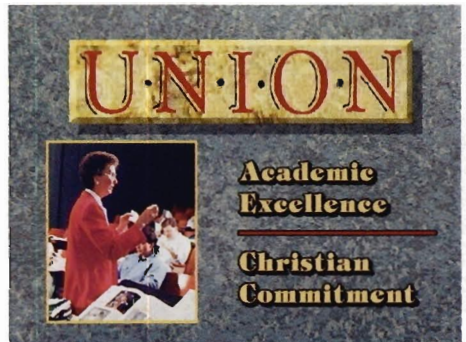

Figure 10
Step 11: If your graphic contains a great deal of straight lines, you may want to do some minor pixel cleanup around the edges (see Figure 10).